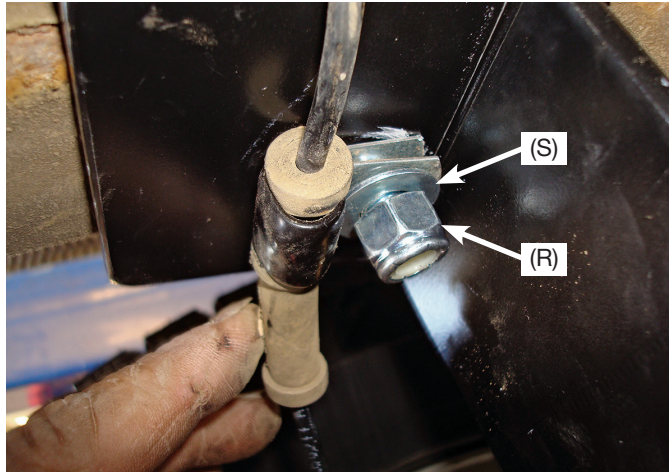

Fig. 18
4. While raising the assembly, line up the bolt previously installed with the back hole on the bracket. Set the new ABS line holder over the bolt once the upper bracket is in place and cap with a flat washer (S) and nylon lock nut (R) (fig. 18). Leave loose at this time.